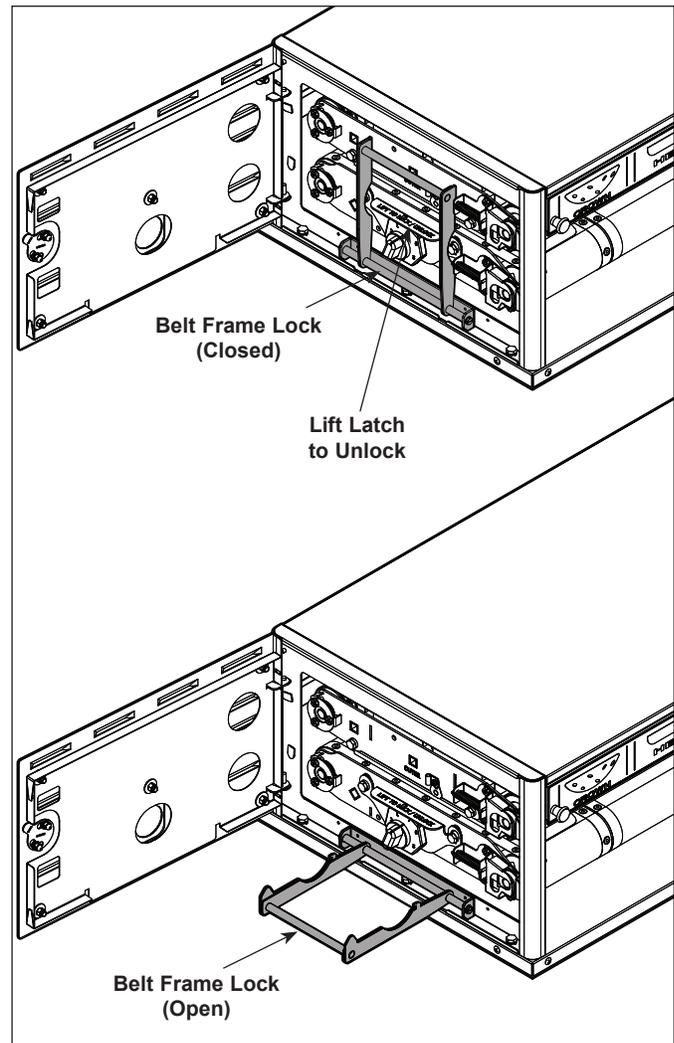

Figure 8. Belt Frame Lock
6. Refer to Figure 8. Lift the latch just above the Bun Compression Knob and then open the Belt Frame Lock as shown.
7. Close the Belt Frame Lock firmly into place (Figure 8) and press the latch in Figure 8 down.